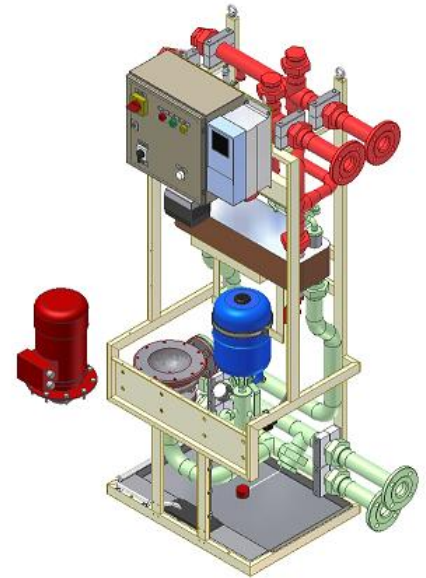

Figure 4.2-1
11. Remove the bolts and nuts from the pump motor flange. Therefore leaving the pump housing in place (figure 4.2-1).